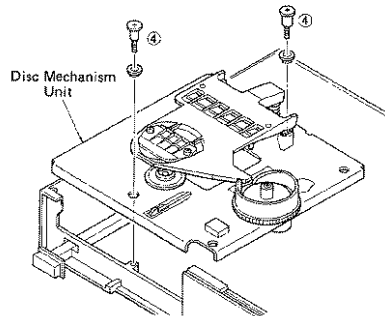

Fig. 4
- a. Remove 2 screws (④) in Fig. 4.